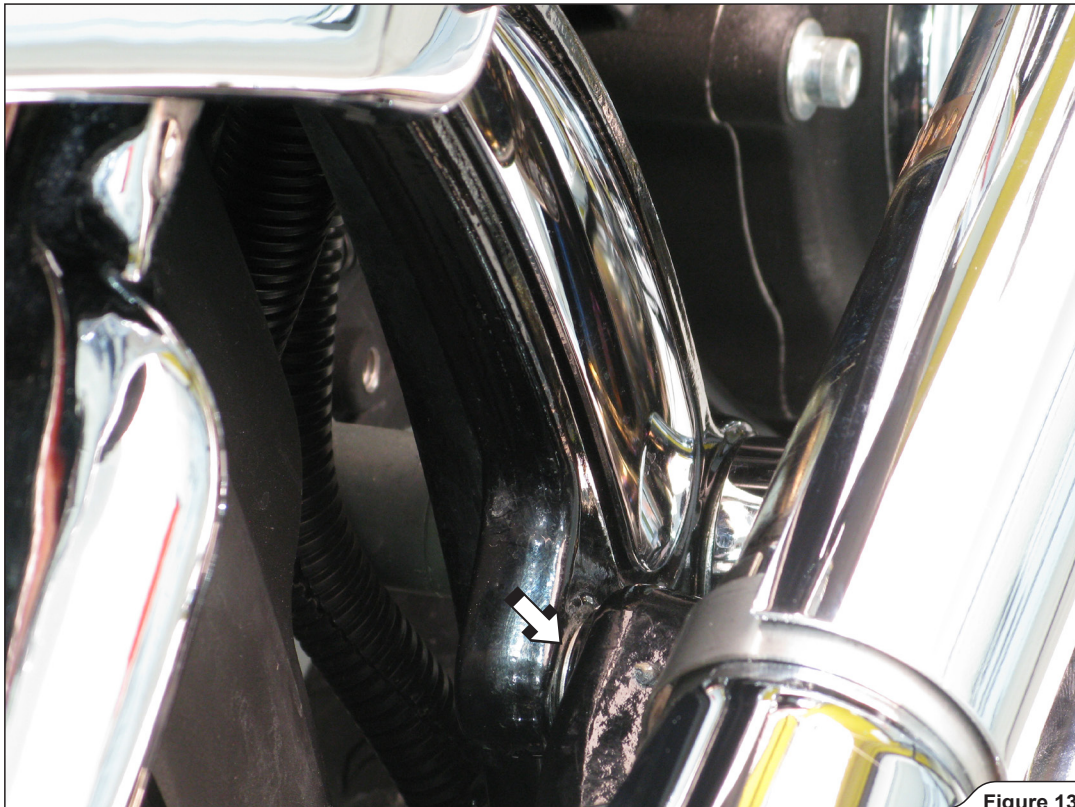

Figure 13
- Put the marked distance washer (from Akrapovič installation kit) under the mufflers' bracket, as shown (Figure 13).